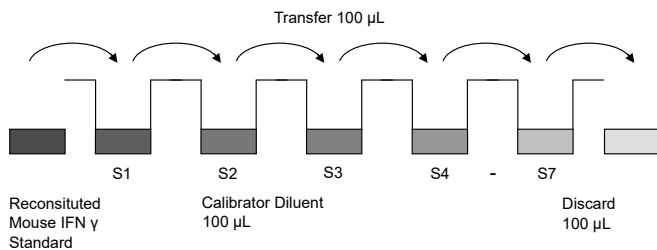

Figure 7 Dilute standards - microwell plate
- Standard dilution on the microwell plate (Alternatively the standard dilution can be prepared in tubes - see “External standard dilution” on page 4): Add 100 μL of Calibrator Diluent in duplicate to all standard wells. Pipette 100 μL of prepared standard (see “Mouse IFN γ standard” on page 4, concentration = 2000.0 pg/mL), in duplicate, into well A1 and A2 (see Table 1). Mix the contents of wells A1 and A2 by repeated aspiration and ejection (concentration of standard 1 S1 = 1000.0 pg/mL), and transfer 100 μL to wells B1 and B2, respectively (see Figure 7). Take care not to scratch the inner surface of the microwells. Continue this procedure 6 times, creating two rows of mouse IFN γ standard dilutions, ranging from 1000.0 to 15.6 pg/mL. Discard 100 μL of the contents from the last microwells (G1, G2) used.